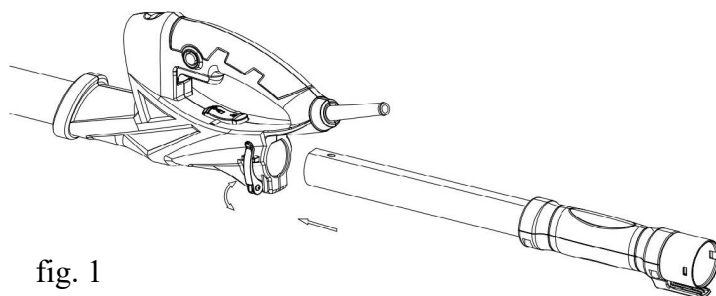

fig. 1
5. If an extension rod is used loosen the lock spanner (figure 1).